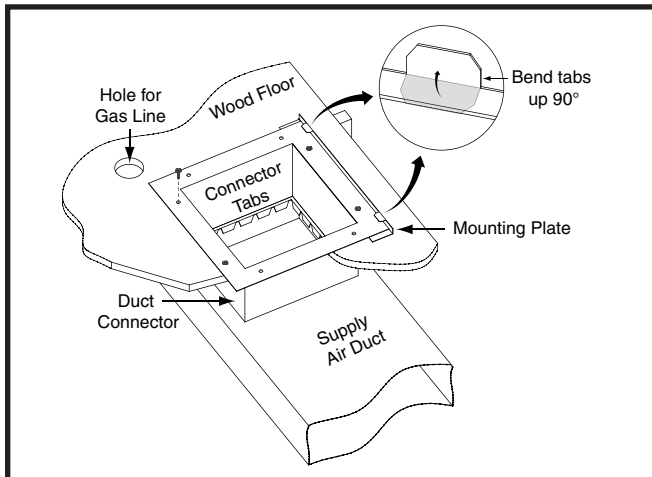

Figure 8. Standard Duct Connector Installed
- Mark the cut-out area on the supply air duct by tracing around the connector tabs of the duct connector. See Figure 8 (page 8).
5. Install the optional mounting plate under the back side of the duct connector as shown in Figure 8. Align the screw holes in both components.